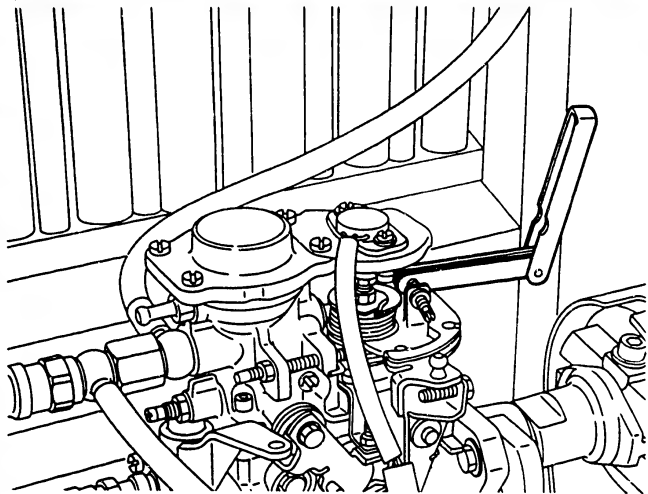

Fig. 222 Measuring the injection quantity
1. After adjusting the control lever position so that the distance between the tip of the idle adjusting screw and the control lever is as specified, measure the injection quantity at the specified injection pump speed. (Fig. 222)